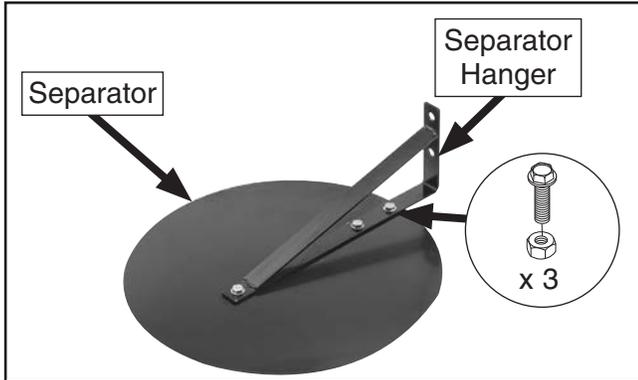

Figure 12. Fully assembled separator.
- Attach separator hanger to separator using (3) $\frac{5}{16}$ "-18 x $\frac{1}{2}$ " flange bolts and (3) $\frac{5}{16}$ "-18 hex nuts (see **Figure 12**).